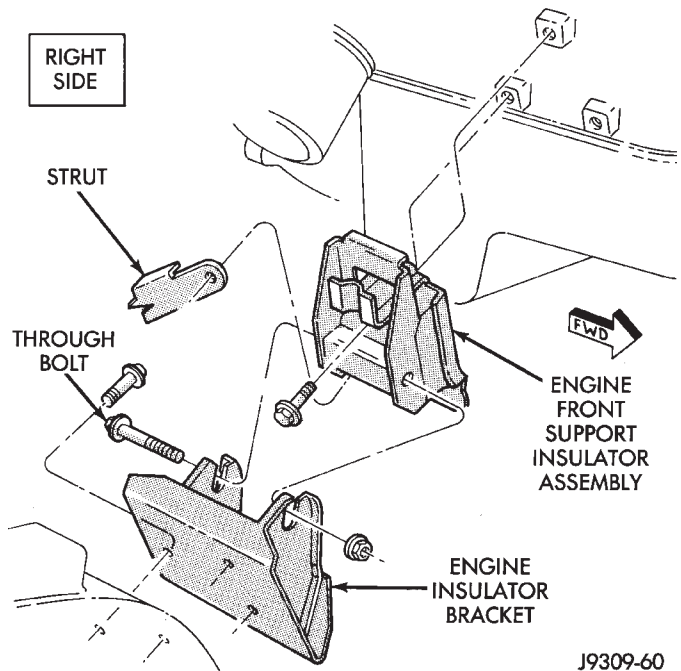
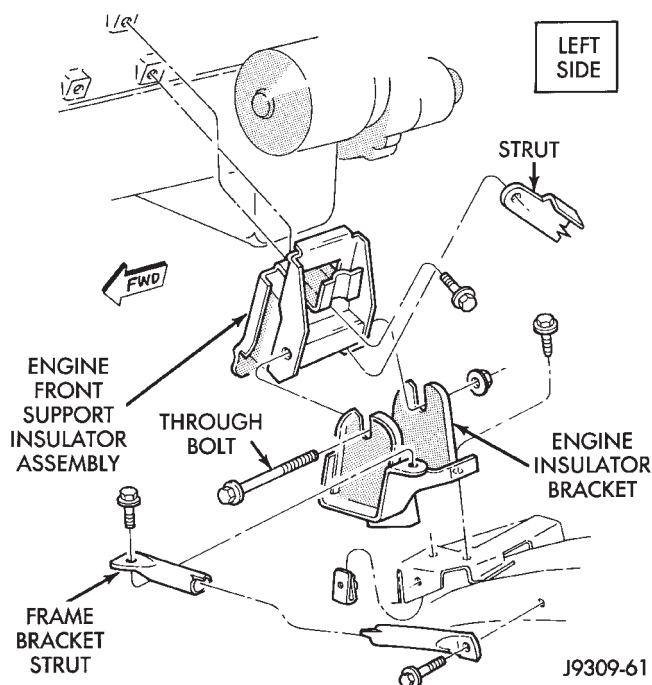

Fig. 15 Engine Right Front Insulator Mount—2WD Vehicles
Fig. 16 Engine Left Front Insulator Mount—2WD Vehicles
- (6) Remove the insulator thru-bolt (Fig. 15) (Fig. 16).
- (7) Raise engine with lifting fixture **SLIGHTLY**. Remove the insulator assembly.
- (1) If the engine insulator bracket was removed, install the bracket to the crossmember. Tighten the bolts to 68 N·m (50 ft. lbs.) torque.
- (2) With the engine raised **SLIGHTLY**, position insulator assembly onto the engine block (Fig. 15) (Fig. 16). Position the strut onto the insulator assembly and install bolts and washers. Tighten the bolts to 41 N·m (30 ft. lbs.) torque.
- (3) Lower engine with lifting fixture while guiding insulator assembly into the engine insulator bracket.